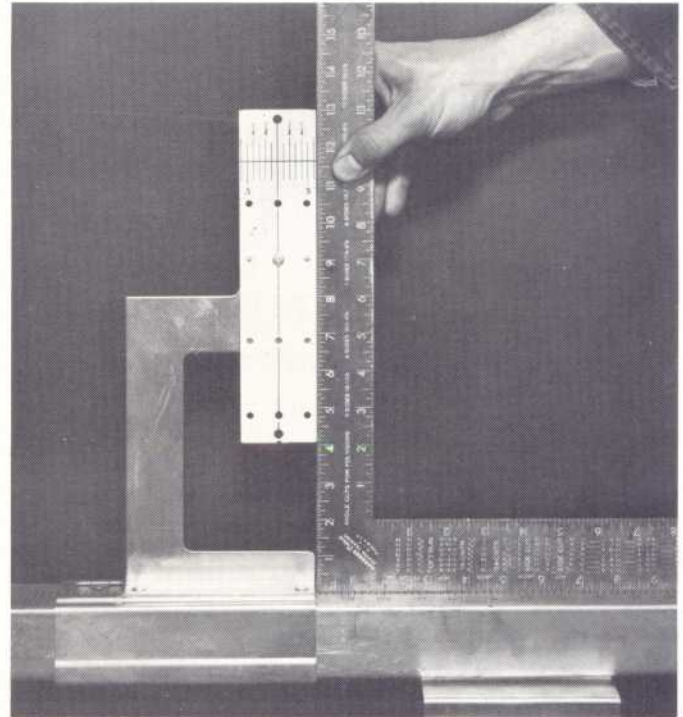

FIGURE 12
2. **TO CHECK REAR TOE GAGE (Supplied as an accessory):** Use a carpenter square to check the squareness of the flags with the toe gage channel. (See Figure 12.) It may be necessary to straighten or shim the flags if they are bent.